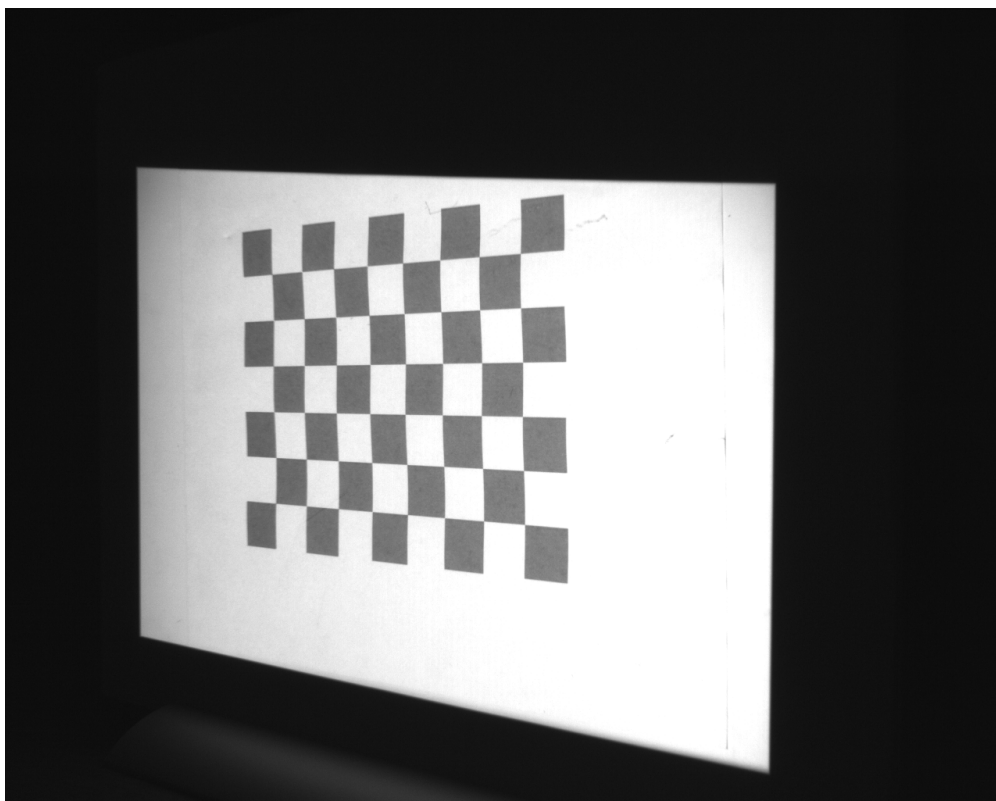

**Figure 3-25. Projector Calibration Chessboard Capture**
3. Select the live camera view window and press the spacebar to capture the centered calibration board. Avoid glare from the projected board or the captured image is discarded by the software. Rotate the angle of the backstop on all 3 axes in the captured images. Figure 3-25 to Figure 3-35 show some recommended projector calibration capture orientations. The camera captures three patterns after the spacebar is clicked: solid white, black and white chessboard, and solid black.